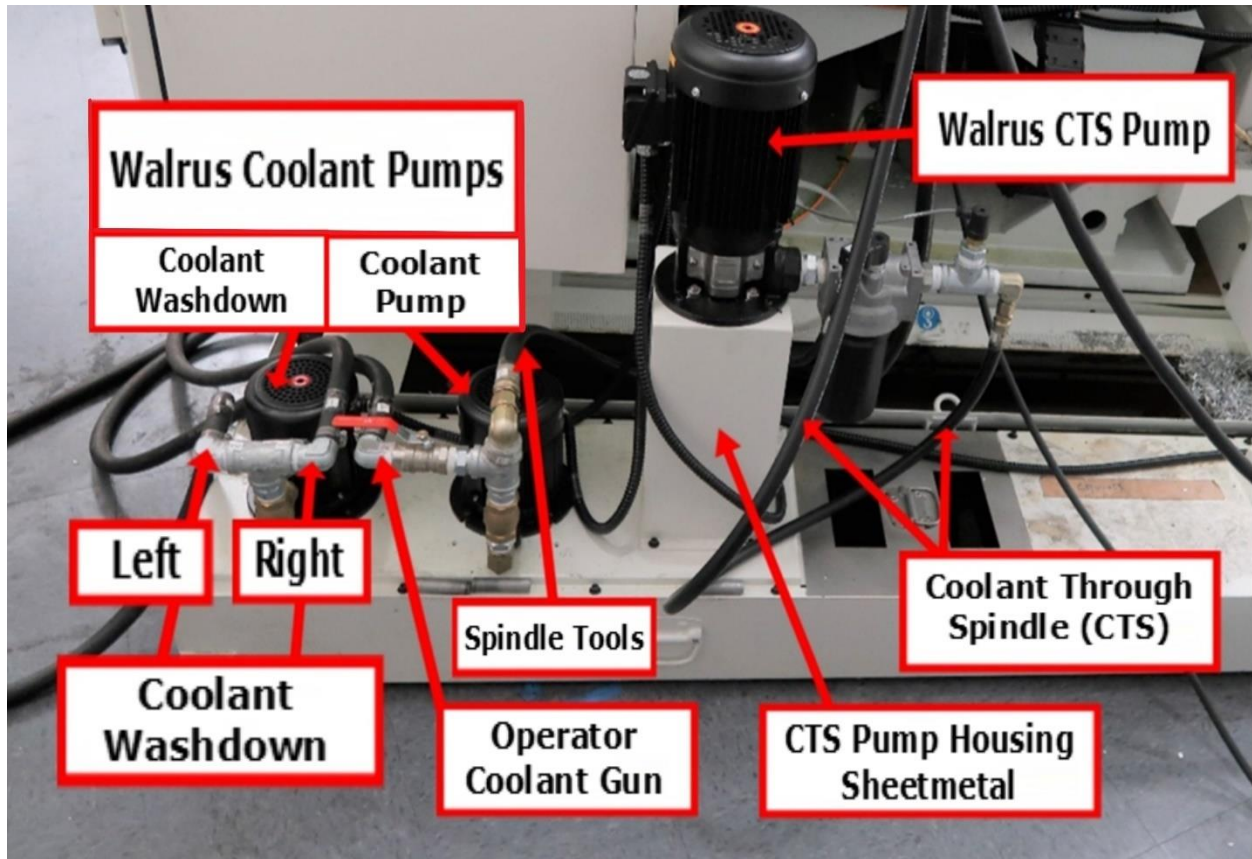
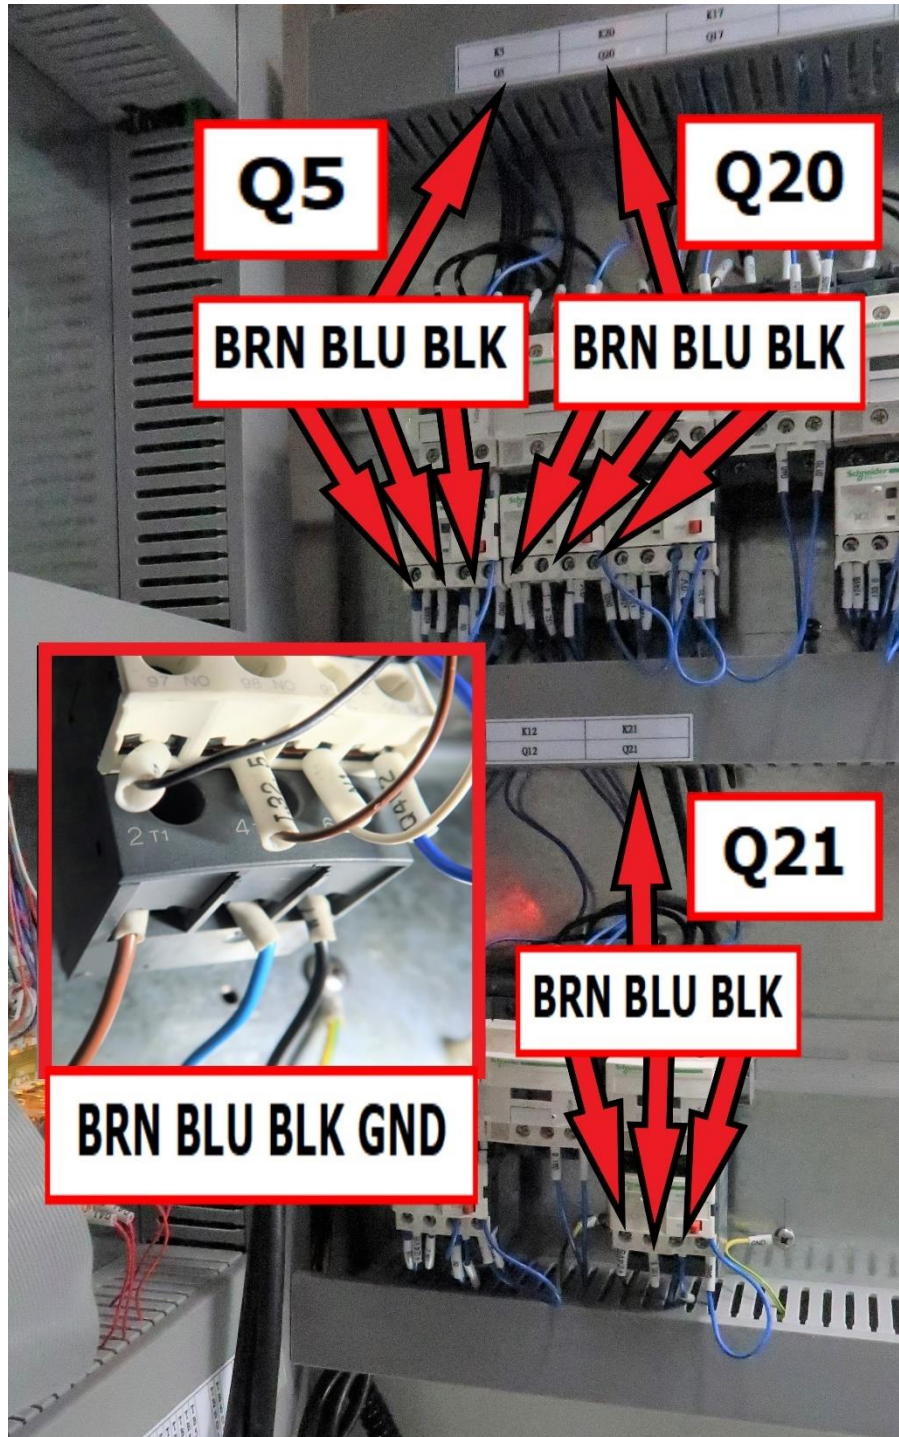

Figure 2.10a
Figure 2.10b VMC7/10si Coolant, Coolant Wash Down and CTS Wiring
- Attach and secure these hoses with hose clamps per the figure 2.10a. Wires on mills using 480v power, are routed through the electric cabinet with the coolant pump wired to overload Q5, coolant wash down pump wired to overload Q20, and the optional CTS pump wired to overload Q21 as shown in figures 2.10b and 2.10c. Connections are labeled with letters and have specific colors (left to right), U = brown, V = blue, W = black with the yellow/green stripe ground wire connected to back panel. Inset of the figures show the specific wire location points. Wires are attached to the bottom of the overload where a clamp screws in toward the back of the cabinet. It takes quite a few turns to tighten.